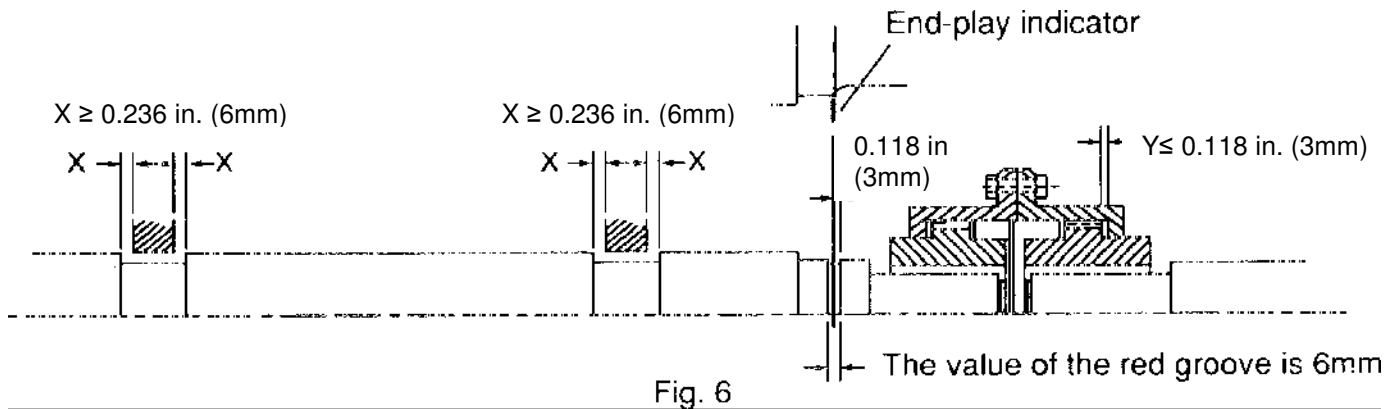

Fig. 6
- Unless otherwise specified, the designed end-play value X of the groove for TWMC motors in general is within 0.236 in. (6mm) as illustrated in Fig. 6. In essence, the endplay indicator is adjusted to point at the center of the groove or the drive-end shaft shoulder; thus X equals to ± 0.236 in (6mm) so, and the endplay value (Y) of the couplings should equal or be smaller than 0.118 in. (3mm).